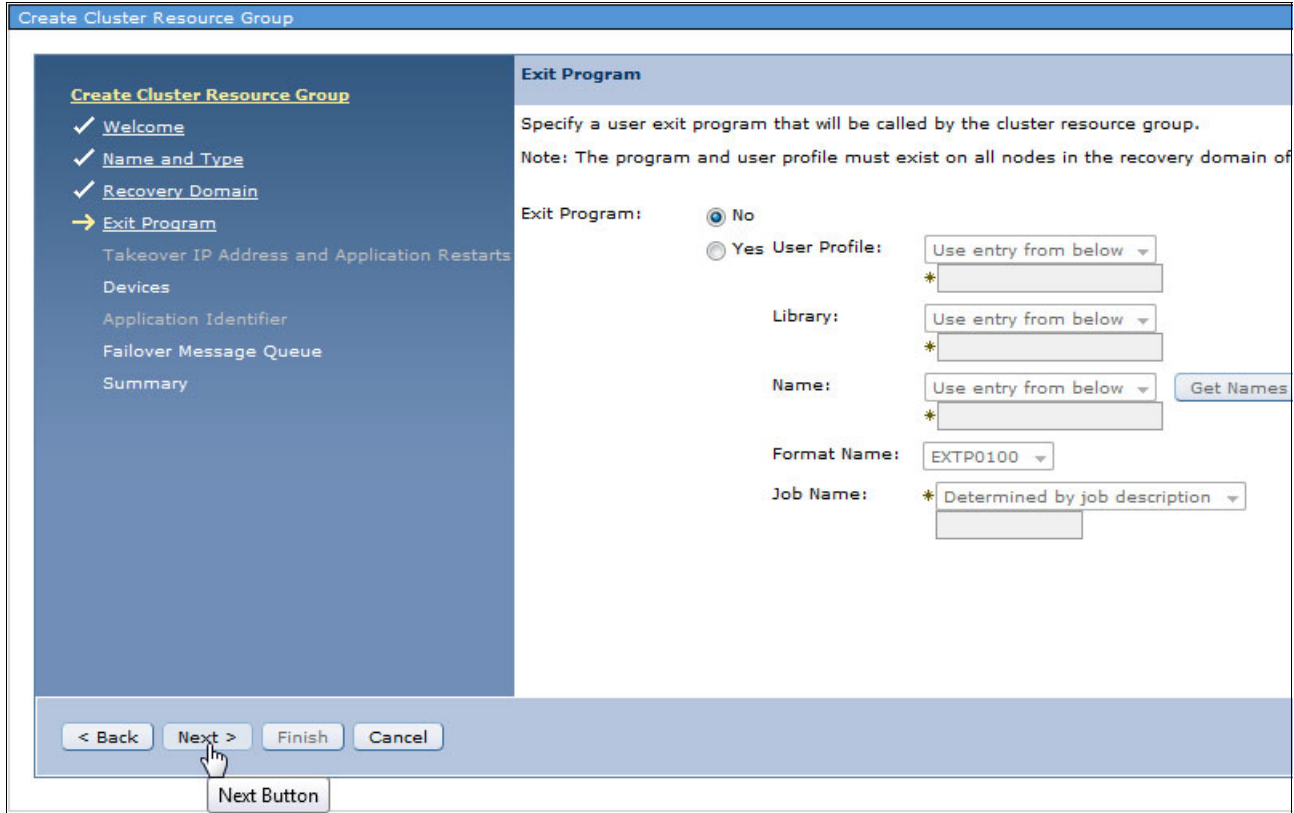

Figure 4-27 Create Cluster Resource Group, specifying an exit program
24. In the Create Cluster Resource Group Exit Program panel, you can define a cluster resource group exit program. This program can be used to start functions that are specific to your environment when failover or switchover is done; for example, to start a certain application. For this example, an exit program is not used, as shown in Figure 4-27. Click **Next**.